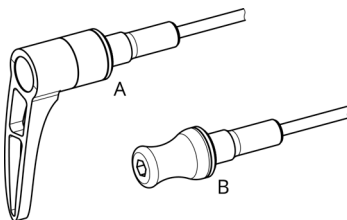

Figure 5
BIKEDRIVE axles are available in two designs; with quick-release lever or hexagon socket (→ Figure 5). For better legibility, in the further course only the quick-release version (A) will be shown.